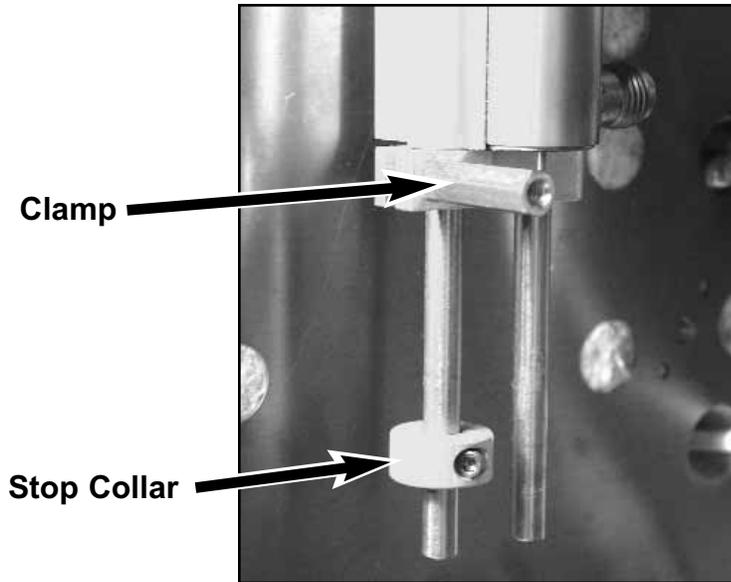

**Figure 9 - Run wires through hole in side of the GC
6. Run the heater/thermocouple cable outside of the oven to the rear of the GC. A spare injection port can be used for this purpose, although one of the holes in the left-side oven wall is recommended (Figure 9). In order to pass the cable through one of these holes, the connectors may need to be removed. Pay particular attention to the wiring of the connectors if they are removed, and immediately reattach them to the cable once it is through the oven wall. Leave 6-8 inches of slack in the cable inside the oven to allow the Cryotrap to slide up and down the guide rods freely.
7. Install the Cryotrap onto the mounting assembly by inserting the guide rods into the holes in the Cryotrap body and sliding the unit up onto the rods. Orient the trap so that the heater and thermocouple leads are at the top of the unit (Figure 9). Install the Cryotrap clamp under the Cryotrap. Position the top of the Cryotrap approximately 1 to 2 cm from the bottom of the insulation cup and tighten the clamp (Figure 10).
9. Plumb cryogen supply and exhaust lines from the Cryotrap outward. A spare injection port may be used to plumb the LN2 lines (Figure 11); however, use of the holes in the left oven wall makes for a much neater installation (see Figure 9). Cryogen should be supplied to the Cryotrap through the 1/4" swagelok opening that points toward the right side of the GC. The other 1/4" swagelok fitting (pointing toward the rear of the GC) should be used for venting the trap, if necessary. Installing the Cryotrap in another orientation may result in failure of the Cryotrap, or inability for the GC to control oven temperature.